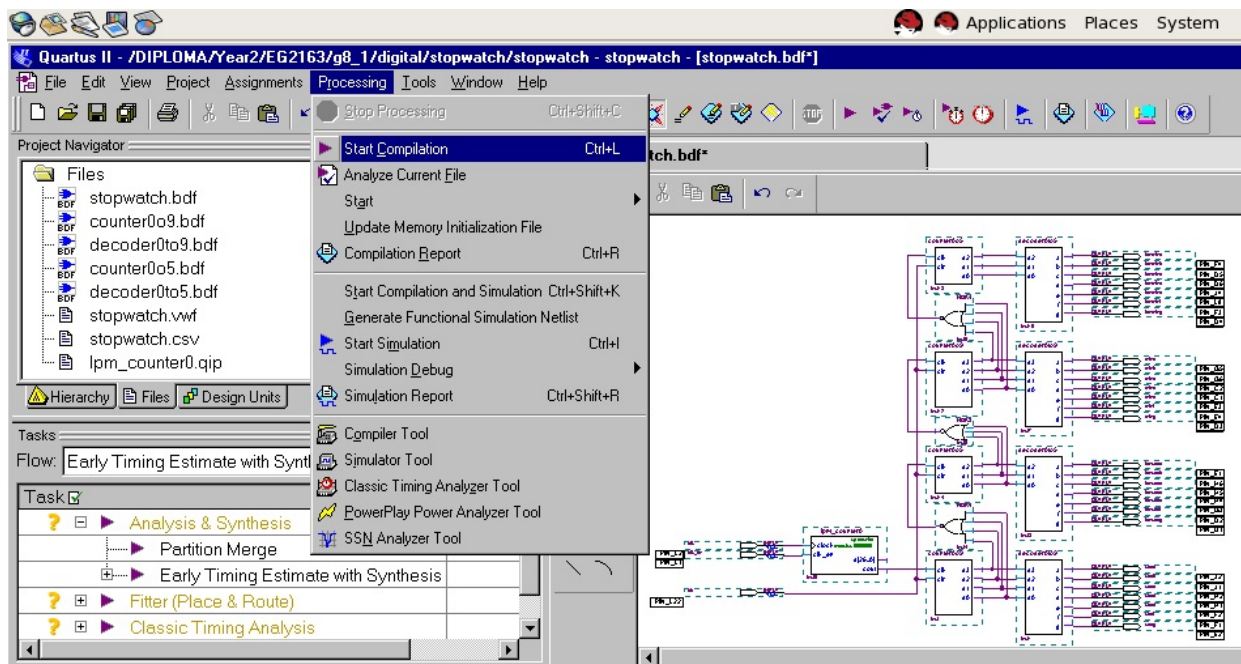

Figure 7.19 Compile the complete stopwatch circuit with pin assignments
9. Compile the circuit with pin assignments as shown in Figure 7.19 and ensure no error (Ignore warning/s).